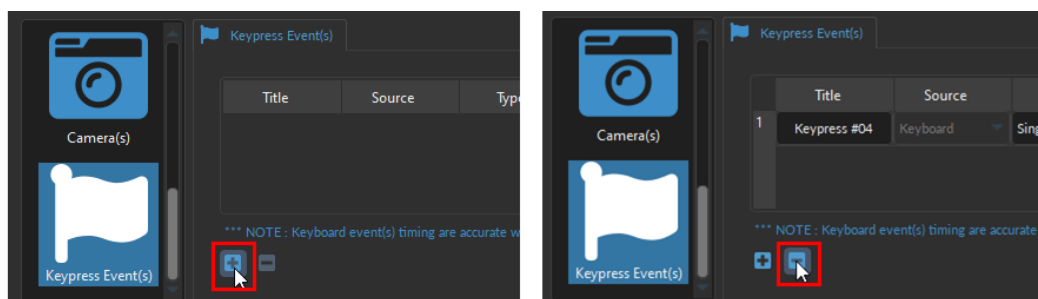

Figure 5.40: Adding and Removing Keypress Events
To add a new **KeyPress Event**, select the + sign at the bottom of the window (Fig. 5.40, left). To remove a Keypress, use - button (Fig. 5.40, right).
- **NOTE:** Selecting the + button (without clicking the *Add* button or the *Close* of the *Channel Configuration* window) will **automatically** add the Keypress Event channel at the **bottom** of the Acquisition View window, below any pre-existing channels (Fig. 5.40).